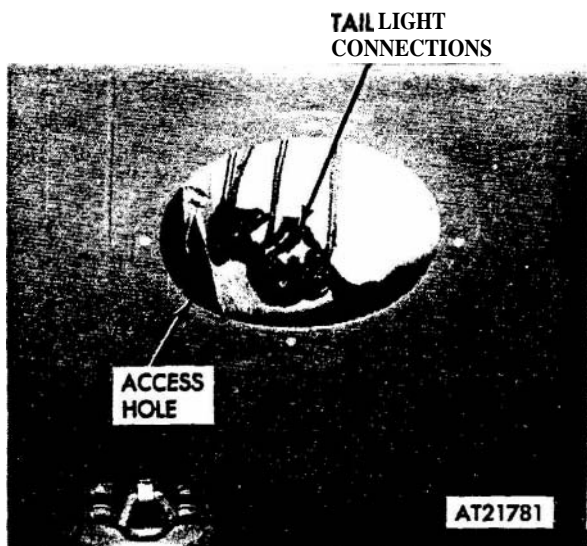
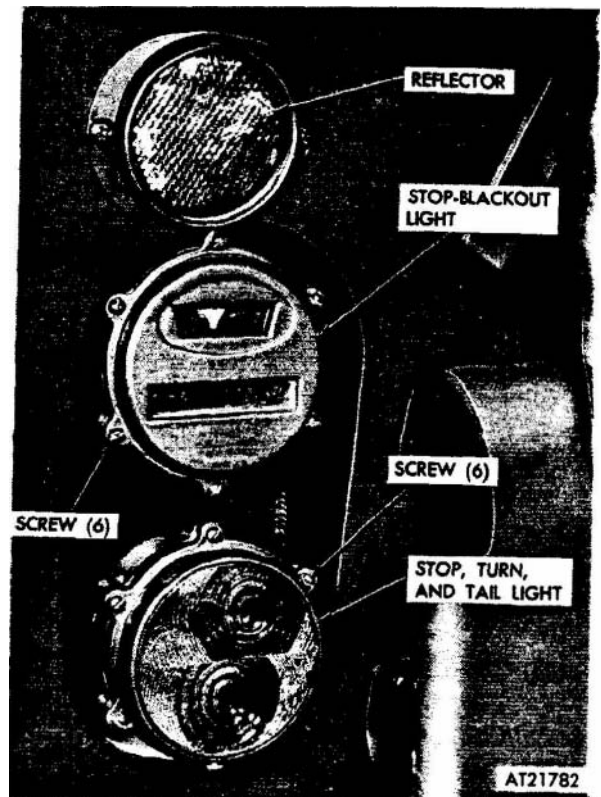

Figure 2-129. Tail light connector access hole
Figure 2-130. Tail light assemblies.
- (1) Lower tailgate (refer to TM 9-2320-242-10).
- (2) Remove access hole cover from rear seat by removing four screws.
- (3) Reach through access hole, identify, and disconnect correct electrical connectors (fig 2-129).
- (4) Reach through access hole and remove light assembly from carrier hull by removing two screws and lock washers.
- (5) Slowly remove light assembly (fig 2-130) while working electrical connectors through mounting hole in carrier hull. Remove gasket.
- (1) Remove lens and gasket from light body by removing six screws (fig 2-130).
- (2) Remove defective lamp by depressing and turning lamp.
(1) Lower tailgate (refer to TM 9-2320-242-10).
(2) Remove access hold cover from rear seat by removing four screws.
(3) Reach through access hole, identify, and disconnect correct electrical connectors (fig 2-129).
(4) Reach through access hole and remove light assembly by removing two screws and lock washers.
(5) Slowly remove light assembly while working electrical connectors through mounting hole in carrier hull. Remove gasket (fig 2-130).
11) Remove cover assembly and gasket from light body by removing six screws (fig 2-130).